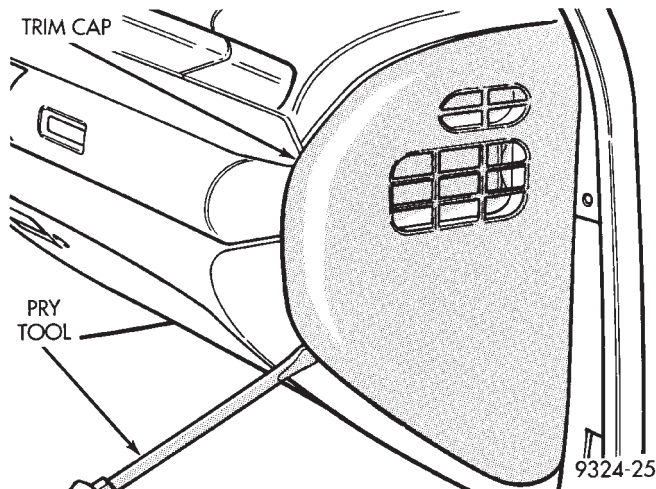

Fig. 3 Trim Cap Removal
(1) Remove right side instrument panel trim end cap (Fig. 3).